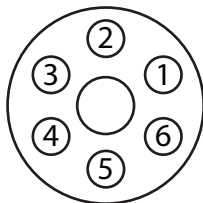

Figure 2. Front View: Mount with Port 2 at 12 o'clock
5. Once the valve has been installed, twist the valve counter-clockwise until it stops. Port 2 of the valve should be in the 12 o'clock position as shown in Figure 2.